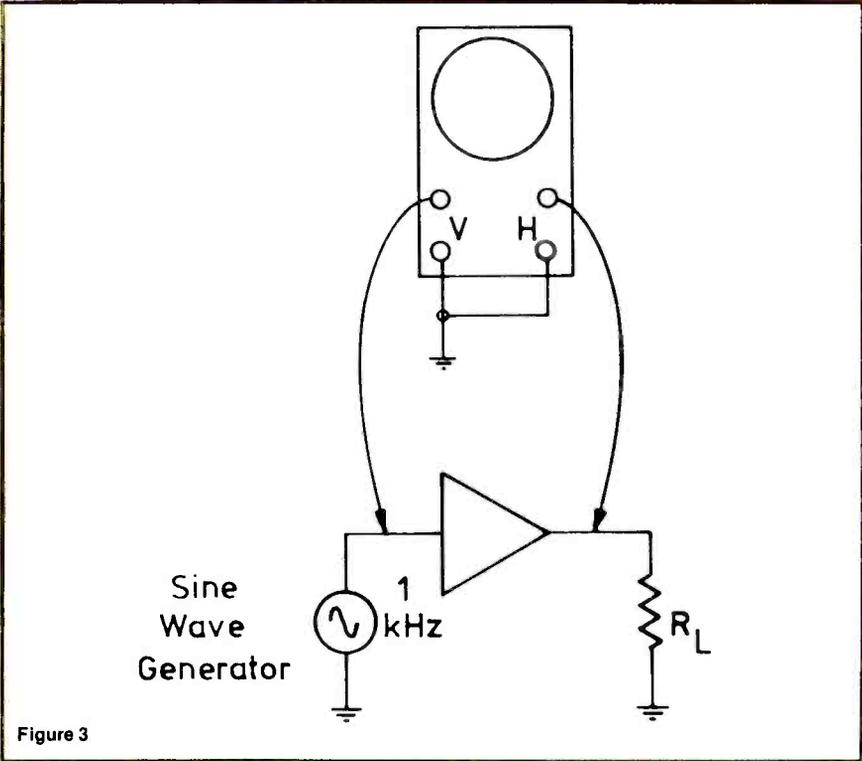

Figure 3
3. The lissajous test setup in Figure 3 is used for testing the Class A audio amplifier. When the scope controls are properly adjusted, the display should be